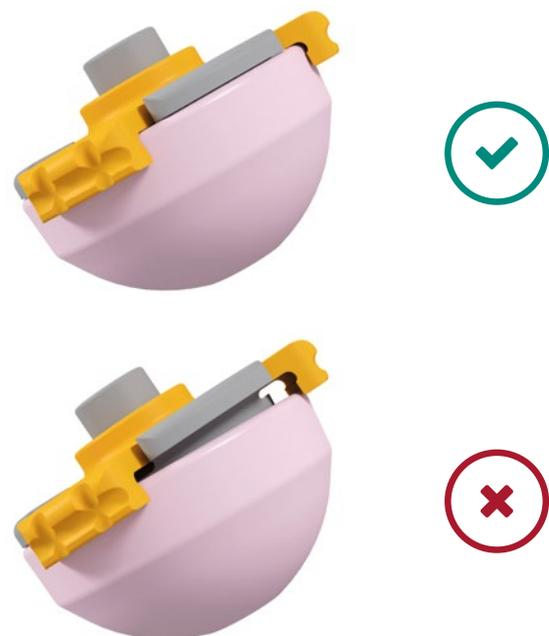

Figure 34.
- To ensure correct function and reduce the likelihood of ceramic liner misalignment, verify all the gripper legs are firmly fixed and flush to the line; this may require effort to clip on (Figure 34).